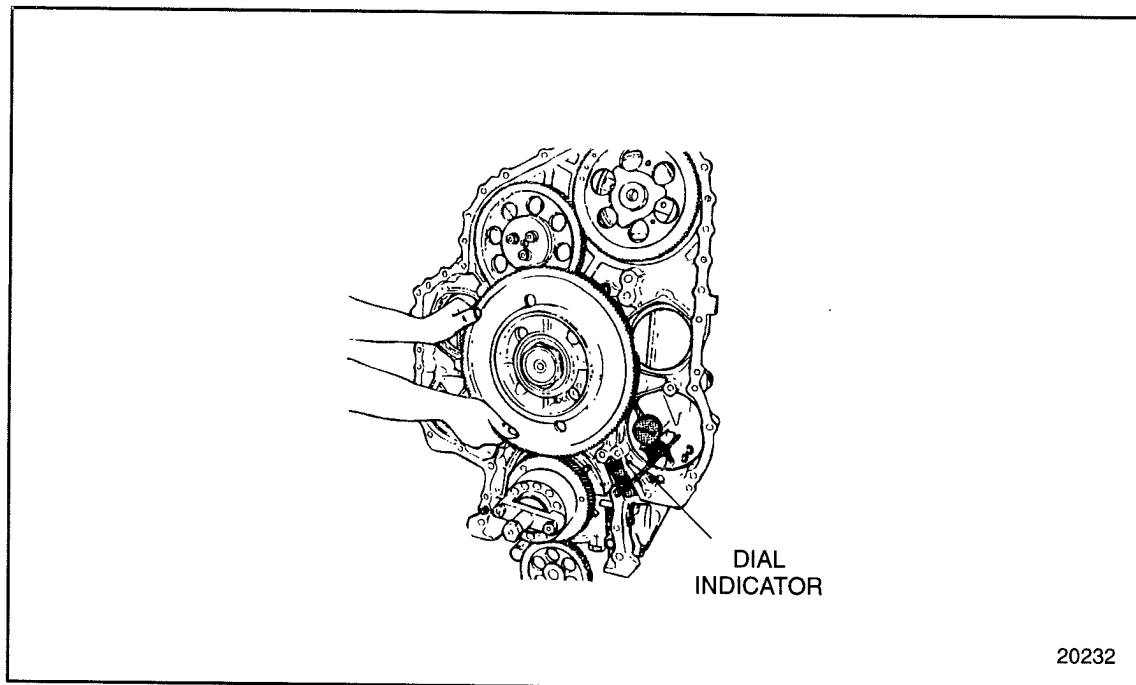

FIGURE 1-254 Crankshaft Timing Gear-to-Bull Gear Lash Measurement
- [a] Install a dial indicator and magnetic base. See Figure 1-254.